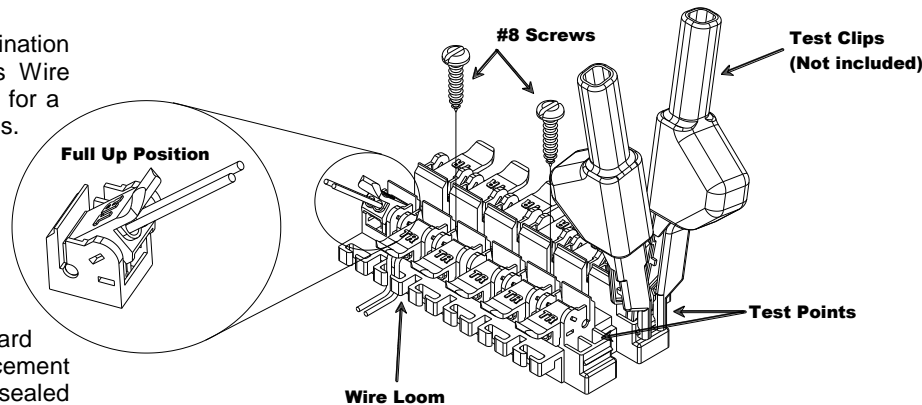

Figure 1
2.7 Test for line continuity using the test points. (Figure 1).
2.5 Lift the rocker labeled MTA to the full up position. DO NOT strip wires. Hold the wire pair from MTA to be terminated between thumb and index finger Insert wires into wire guides simultaneously until they bottom-out. While holding wires in position, terminate rocker by lowering to the full DOWN position (See Figure 1).